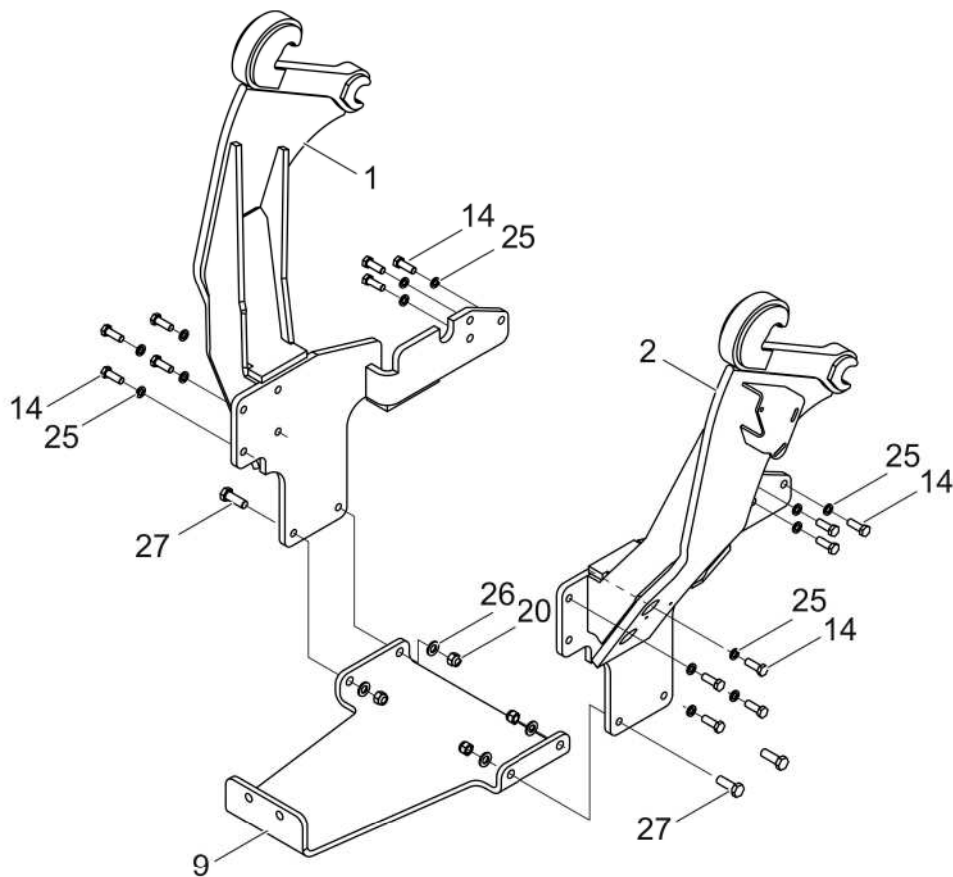

FIG. 4.2A Mounting support frame on KIOTI dk551C tractors with KB2375 backhoe
(1)- left bracket; (2)- right bracket; (9)- bracket; (14)- bolt M14x1,5x40; (20)- counter nut Z12,2; (24)- spring washer Z10,2; (25)- spring washer Z14,3; (26)- washer 16-100HV; (27)- bolt M16x55
In the KIOTI DK551C tractors equipped with KB2375 backhoe, remove the air pressure regulator and hydraulic hoses bracket before beginning assembly. The front and rear of the brackets (1) and (2) (FIG. 4.2A) fix with bolts (14) and washers (25). Between the brackets (1) and (2) (9), using bolts (27) nuts (20) and washers (26).